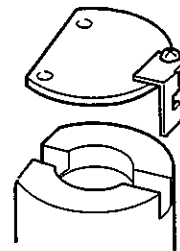
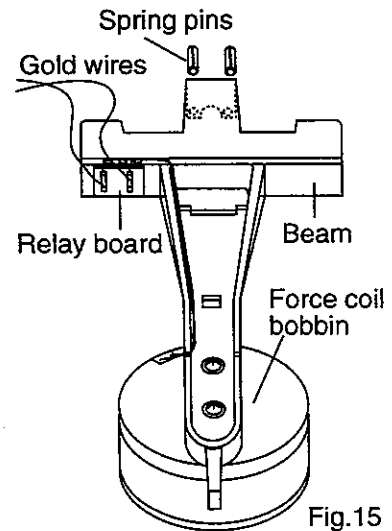

Fig.14
Fig.15
Step 10. Remove the flexible gold wires using a soldering iron from the relay board (Fig 15).
Step 11. Remove the shield plate (Fig 14) and the beam assembly (Fig 15). Use caution when removing the bobbin from the magnet well not to scratch the bobbin surface.